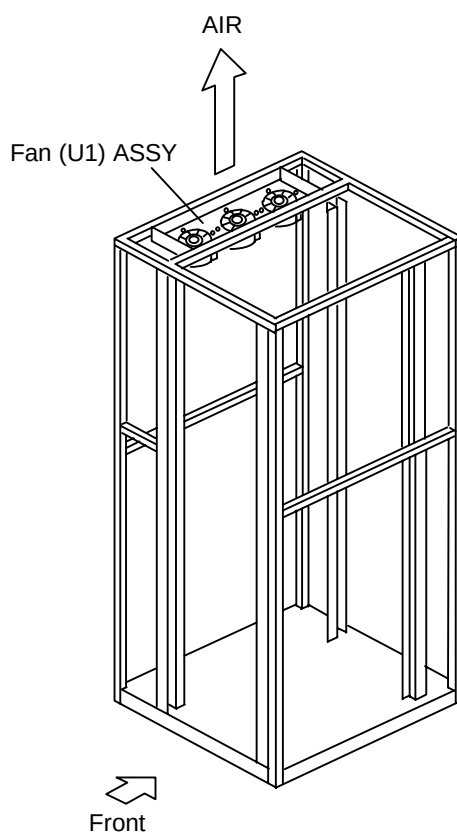

Figure 2.5 Checking the Fans of the U1 Frame
- (1) Confirm that air blows from each fan in the direction of the arrow shown in Figure 2.5. Also check each fan for any abnormal sounds.
- (2) If there is no air blowing, or an abnormal sound is heard, replace the fan with the spare.